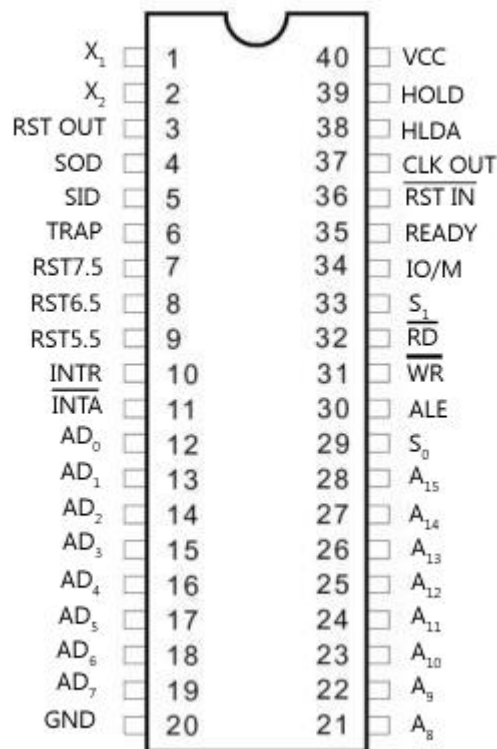

Fig.5 8085 pin diagram
- The device has 40 pins. Fig.5 shows the pinout of 8085 microprocessor.